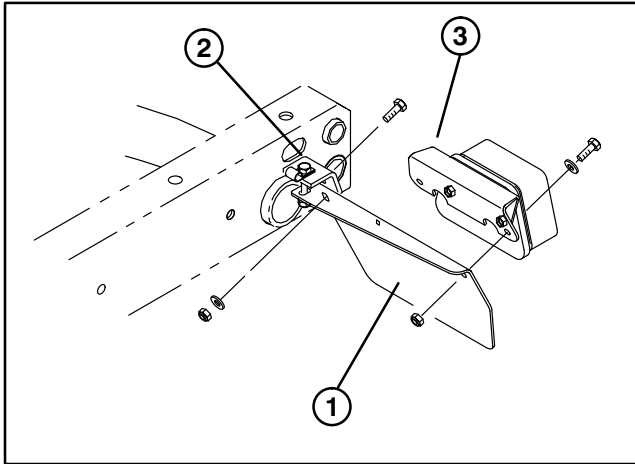

Figure 1
INSTALL REAR FENDERS (Fig. 1–2)
3. Secure rear of each tail light plate to rear of frame brackets with a 5/16–18 x 1" lg. cap screw, .344" I.D. flatwasher and nut, as shown in figure 1.
4. On left side, remove (2) capscrews, washers and nuts securing tail light mounting bracket to tail light plate.